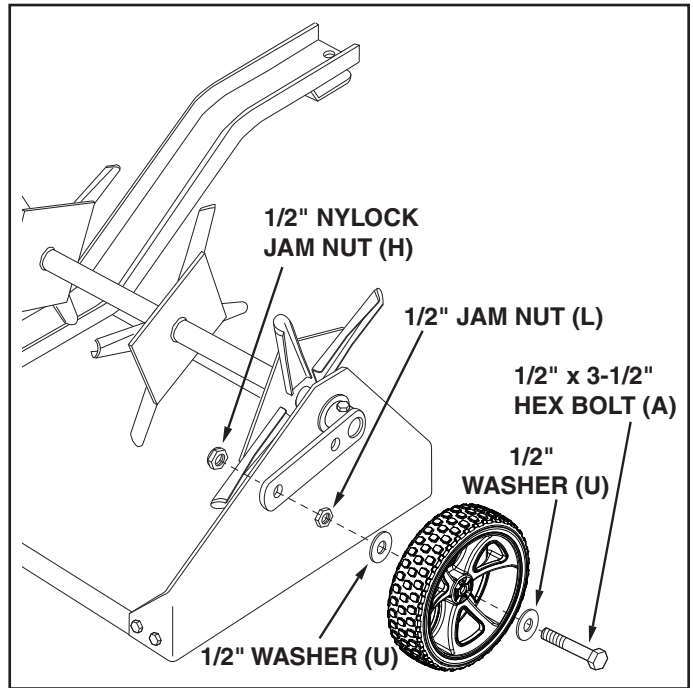

FIGURE 9 UPSIDE DOWN VIEW
14. Assemble a wheel to a wheel bracket as shown in figure 9. Use a 1/2" x 3-1/2" hex bolt (A), two 1/2" washers (U), one 1/2" hex jam nut (L), and one 1/2" nylock jam nut (H). Adjust the nuts so that the wheel is held securely with minimum end play but will spin freely. Repeat on other side. See figure 9.